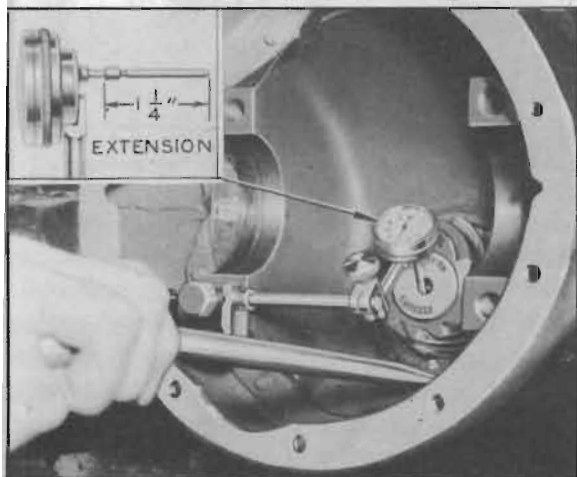

Figure 5-7—Testing Pinion Bearing Wear
2. At this point it may be desirable to test pinion shaft bearing wear without removing pinion shaft. Install $1\frac{1}{4}$ " extension on stem of dial indicator and mount indicator to bear down against center drilling in pinion gear, with indicator stem as near vertical as possible. See figure 5-7. Pry up on pinion gear with bar a number of times while observing indicator reading. A reading in excess of .0015" indicates that bearing is worn enough to produce noisy gear operation.